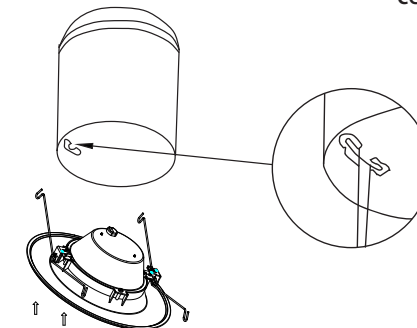

Figure 3
STEP5: Squeeze the torsion springs together and install into torsion spring brackets inside the housing as shown. (Figure 3)